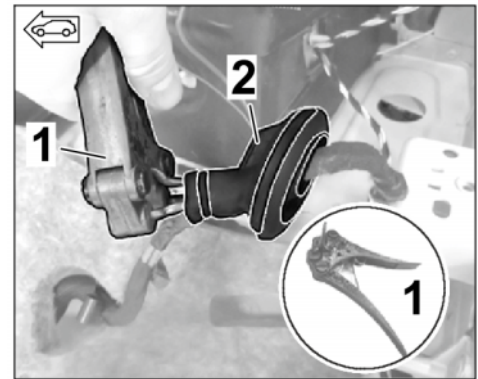

Figure 22
3.3.7 Guide the new branch for the exhaust flap (left/right) through the new grommet (left =  $\varnothing$  66.5 mm/right =  $\varnothing$  46 mm  $\Rightarrow$  Figure 22) using three mandrel pliers and an auxiliary line (Tekalan or Teflon tube).